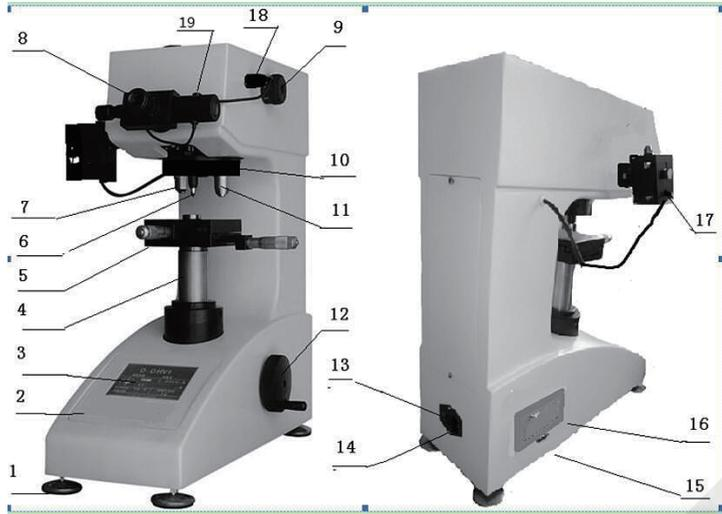
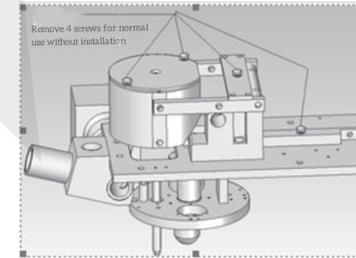

Fig 3.1 Appearance of hardness tester host
Figure 3.2 Location of Removing Four Screws
- Remove the outer packaging box and remove the hardness tester host and accessory box (see Figure 3.1).
- Place the hardness tester on a dedicated workbench, remove the horizontal screw (1) from the accessory box, and screw it onto the bottom of the host.
- Remove the upper cover (12) and unscrew four screws and shockproof screws from the machine (Figure 3.2).